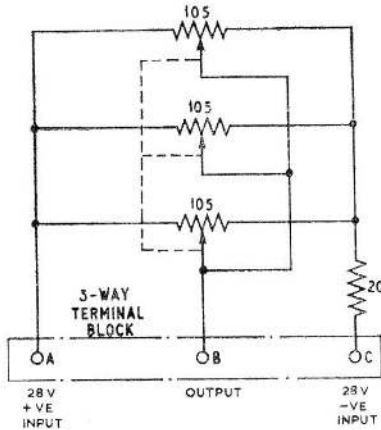

Fig. 2. Temperature selector, Type FHK/A/42 circuit diagram
4. By reference to *fig. 2*, it will be seen that the ganged potentiometer is used to vary the output voltage of a 28V. d.c. input supply. When connected in a cyclic de-icing switch circuit, it regulates the input voltage and hence the speed of a motor, which sets the rate of sequential switching of an a.c. supply to the aircraft aerofoil heater mats.
$-12^\circ\text{C. TO } -25^\circ\text{C.}$ , and  $-25^\circ\text{C. AND BELOW}$ . Internal connections are as shown in fig. 2 except that the additional 20 ohm resistor is fitted between terminal A and the potentiometer connection.
This selector has a  $20 \pm 5\%$  ohms resistor fitted externally to the potentiometer. The dial markings are  $0^\circ\text{C. TO } -12^\circ\text{C.}$ ,  $-12^\circ\text{C. TO } -25^\circ\text{C.}$  and  $-25^\circ\text{C. AND BELOW}$ . Internal connections are as shown in fig. 2.